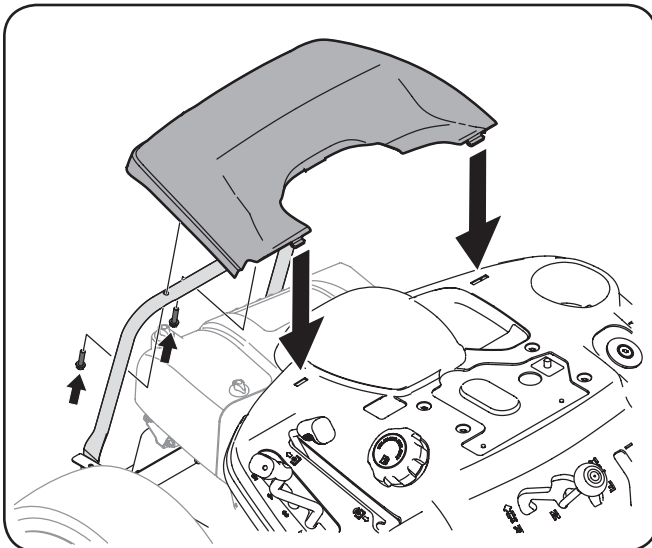

Figure 3-11
1. Remove the two factory installed hex screws located on the rear engine cover. Retain the screws for later instructions. See Figure 3-11.
2. Install the rear engine cover by positioning it in place as shown in Figure 3-11. Tip the engine cover forward to fit it into the slots provided, then rotate it backwards to align the mounting holes.